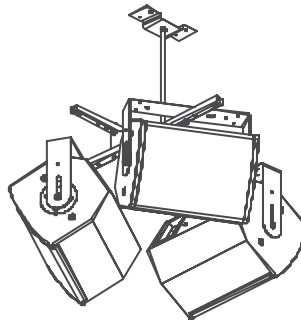

Fig 3.
**Only the screws, fasteners, shakeproof and plain washers specified on figure 3. should be used to assemble the VMY bracket.**
The VCB4 cluster bar (available in both black and white) provides the platform onto which 3—4 x Tannoy V8 loudspeakers can be mounted using the V8Y yoke bracket (not supplied in the VCB4 kit). A number of different loudspeaker arrangements can be made depending on the application and the coverage pattern required (see figures 3—6).